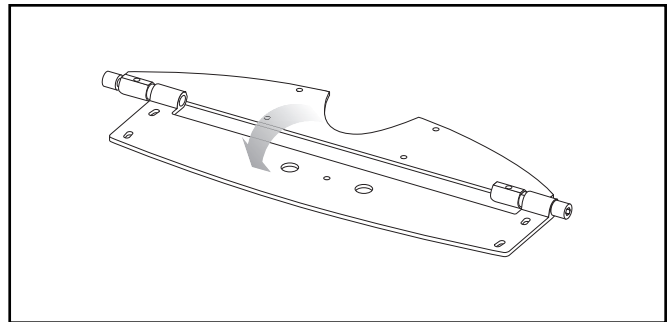

Figure 13. Rotate/open the wall bracket away from the cabinet bracket.
- 3 Rotate/open the wall bracket away from the cabinet bracket (see figure 13).